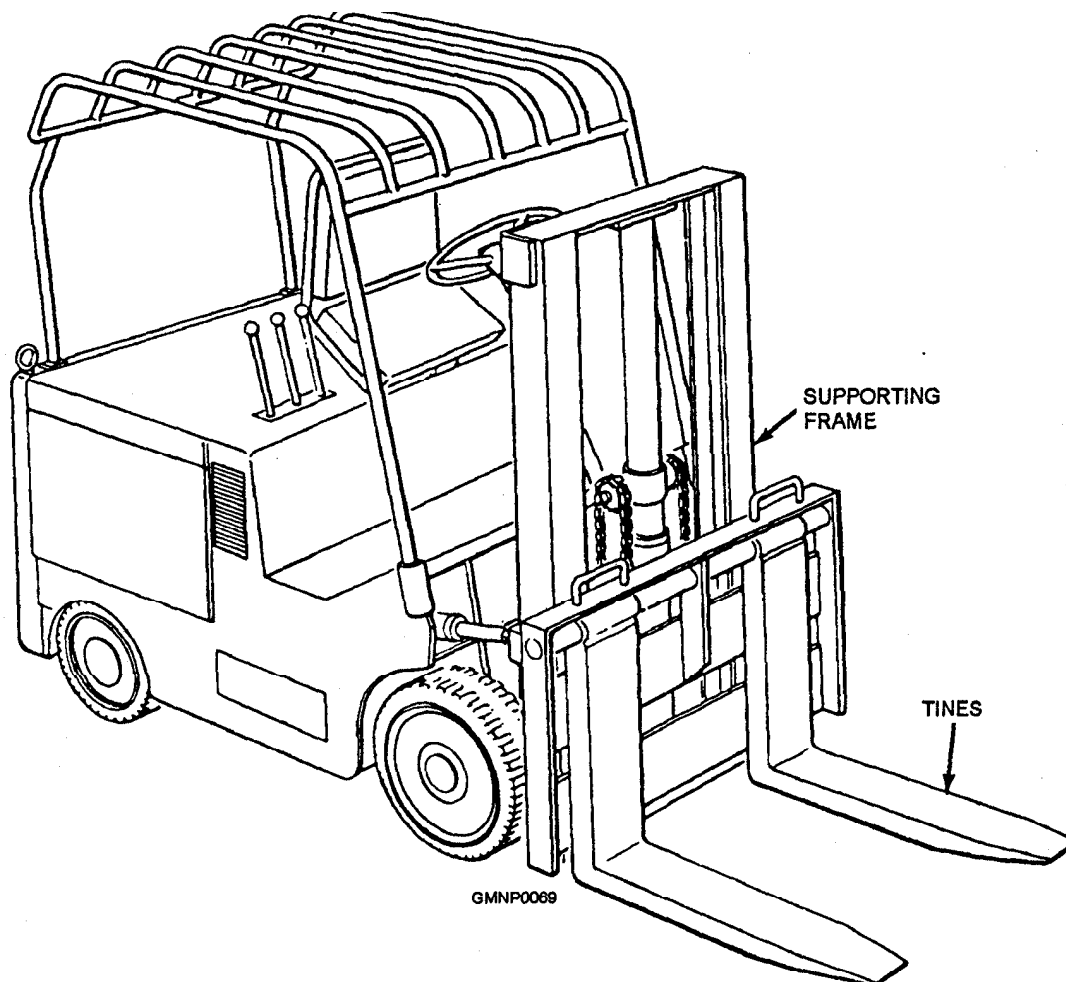

Figure 2-54.—Typical front-loading forklift truck.
**FORKLIFT TRUCK.**—A forklift truck (fig. 2-54) is a mobile three- or four-wheel automotive unit. It enables one individual to pickup a load, transport, and lift it to various heights. The truck is designed on the cantilever principle. The load is counterbalanced by the weight of the truck in back of the center of the front wheels. The front wheels act as the fulcrum or center of balance.